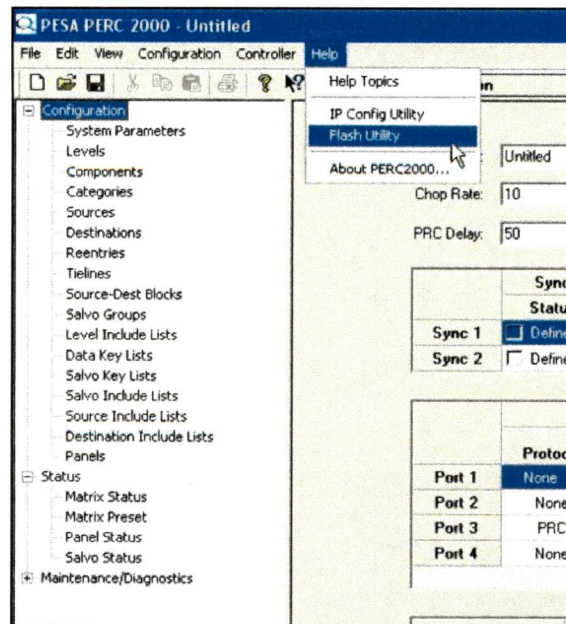

Figure 36. Flash Utility Command Location
- ☐ 3. Click on the Help menu in the Windows™ menu bar and select the “Flash Utility” option from the menu as shown in Figure 36.